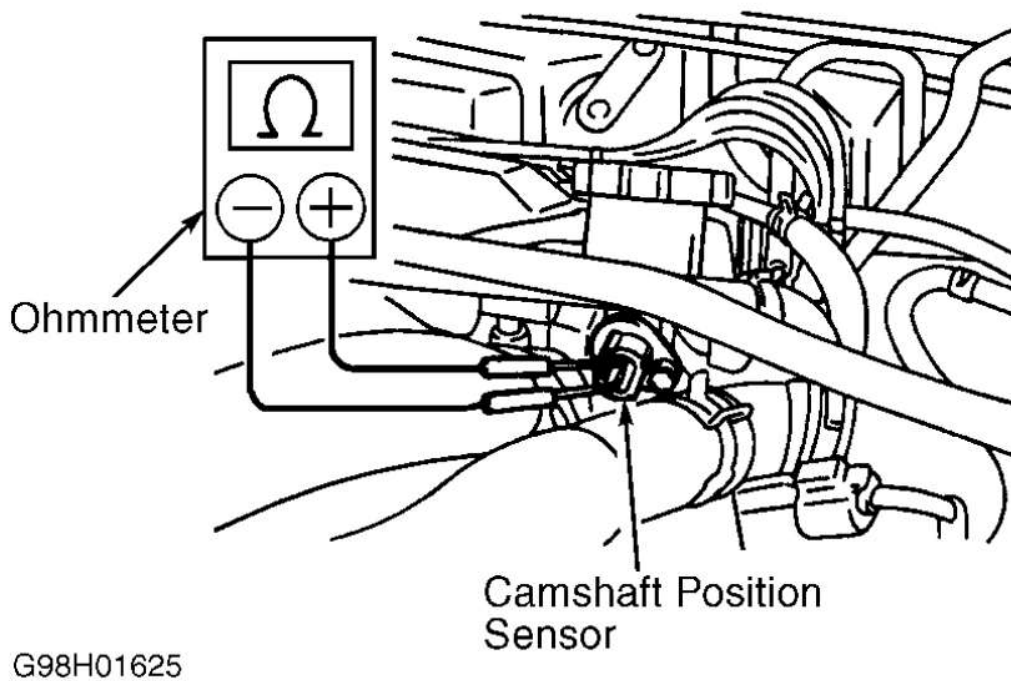

Fig. 40: Locating & Testing Camshaft Position Sensor (Celica 1.8L 1ZZ-FE & Corolla)
1. Camshaft position sensor may also be referred to Variable Valve Timing (VVT) sensor. Disconnect electrical connector at camshaft position sensor. Camshaft position sensor is located just above intake manifold on cylinder head, at flywheel end of engine. See **Fig. 40** and **Fig. 41** . Using ohmmeter, check resistance between electrical terminals on camshaft position sensor.